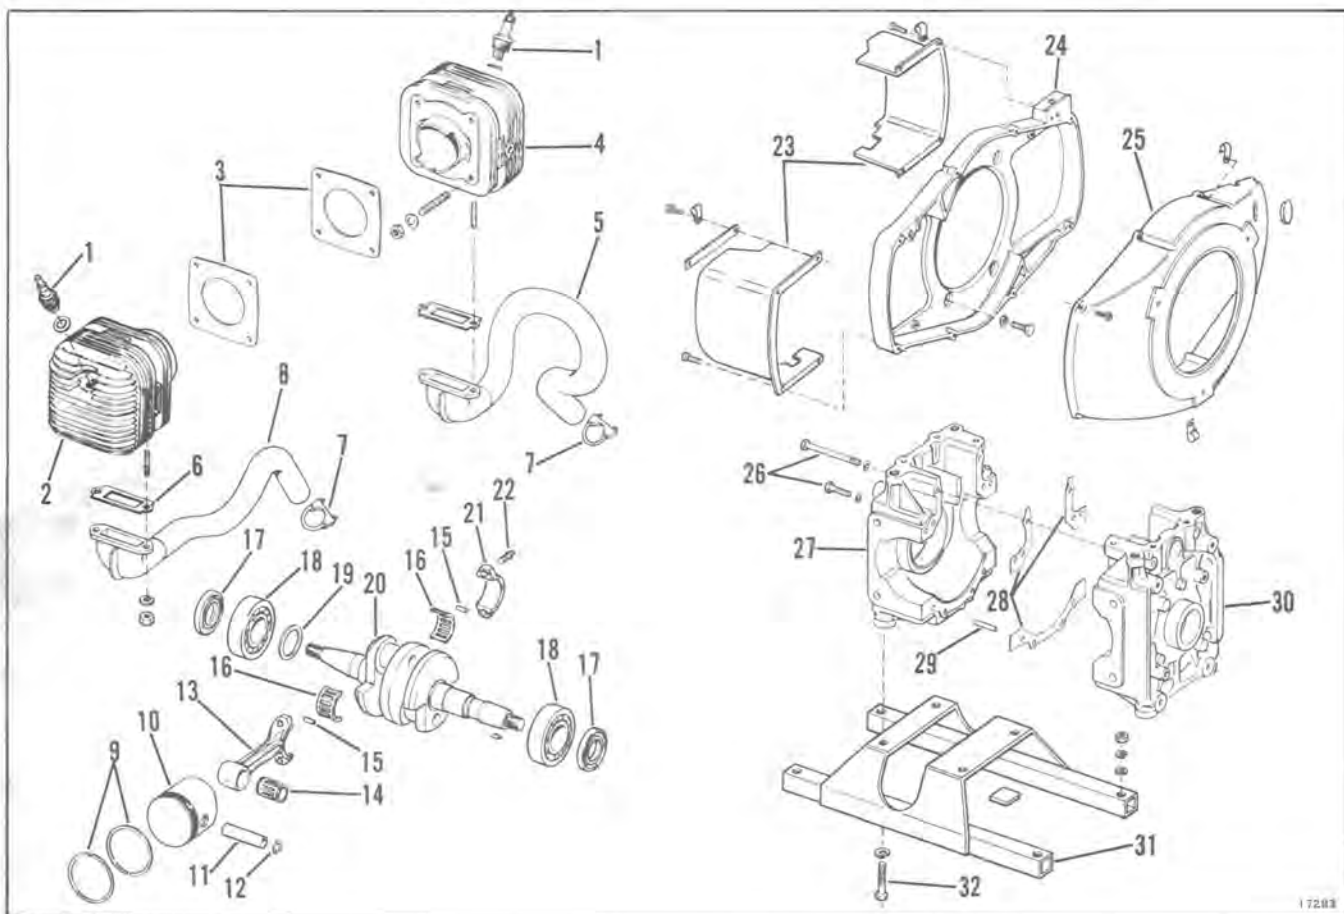

Figure 9-9
- h. Remove screws from crankcase halves and drive out two alignment roll pins. Heat up crankcase halves in bearing area to approximately 250°F. (IMPORTANT - when heating crankcase, be careful not to damage seals.) Tap crankcase with rawhide mallet to break seal, and separate crankcase halves. See Figure 9-9.
Refer to Figure 9-9 for correct sequence of assembly. Make no forced assemblies unless press fits are called for. Make no dry assemblies. Lubricate all moving parts with a light film of oil. Be sure all parts are clean and free from dirt and grit. Perfectly good cylinder walls, pistons, and rings can be ruined in a few minutes of operation if grit remains after assembly. Work in clean surroundings and with reasonably clean hands. Coat all bearing surfaces, cylinder walls, etc., with clean oil before assembly.
- d. Install inner fan housing with magneto and alternator, flywheel, and outer fan housing. See Figure 9-9.